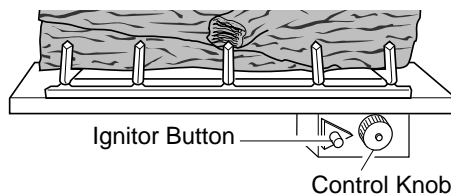

Figure 39 - Control Knob and Ignitor Button Location
3. Turn control knob clockwise to the OFF position (see Figure 39).
4. Wait five (5) minutes to clear out any gas. Then smell for gas, including near the floor. If you smell gas, **STOP!** Follow "B" in the safety information, column 1. If you don't smell gas, go to the next step.
5. Turn control knob counterclockwise to the PILOT position. Press in control knob for five (5) seconds (see Figure 39).